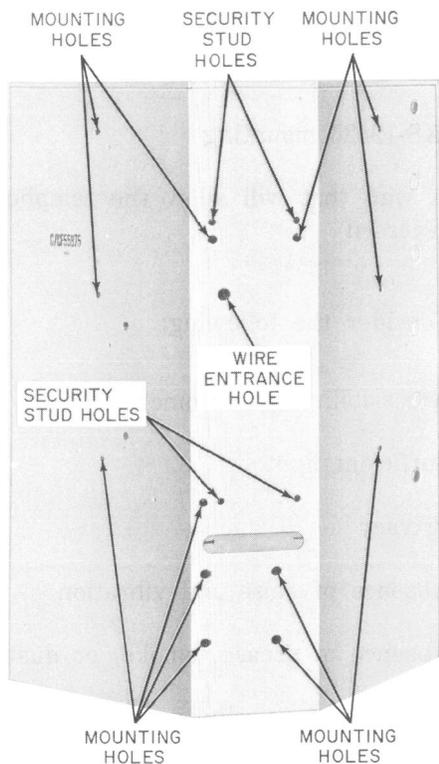

Fig. 8—Location of Mounting, Security Stud, and Wire Entrance Holes
3.03 Refer to Fig. 8 for mounting screw and security stud locations in the coin telephone.
3.18 Feed inside wire through wire entrance hole (Fig. 8) and connect to terminals T, R, and GRD on TB1. Dress wire away from door.